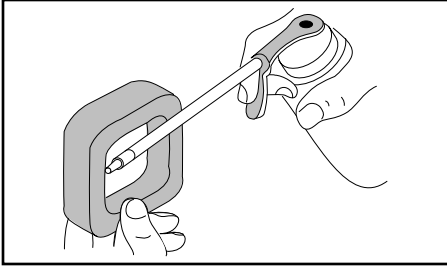

Fig. 27
4. Apply enough clean motor oil to lightly coat the filter (Fig. 27).